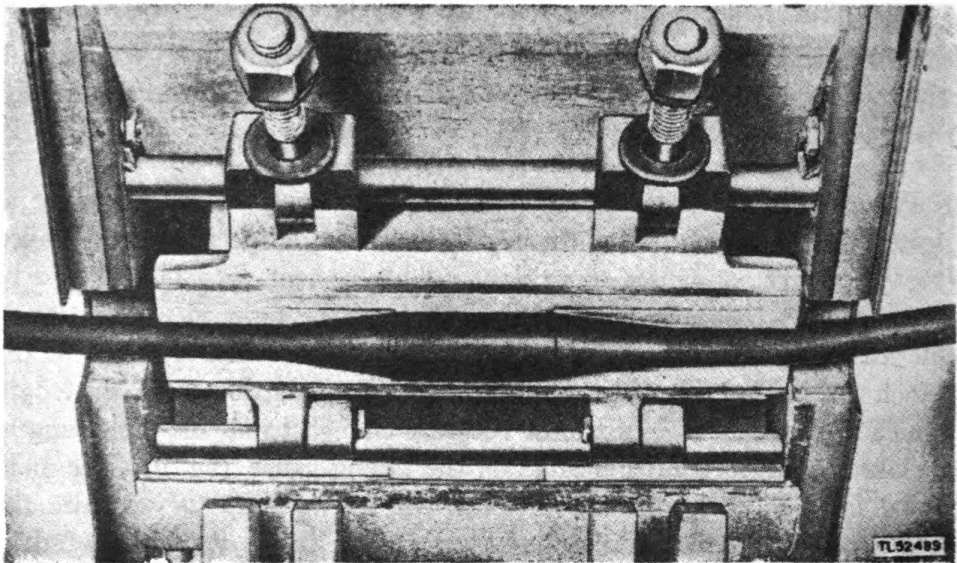

Figure 10. Completed splice in Vulcanizing Equipment TE-54-A or TE-55-A.
(9) If a patch on the rubber jacket is being made, scrape all surfaces clean, brush on the rubber cement, allow it to dry, and apply enough black vulcanizing tape to fill the upper mold. The use of the taping gauge will facilitate this procedure.
b. Vulcanizing. (1) The vulcanizer made available to a particular organization may be one of several types. The operation of vulcanizing is very much the same with all units, although they vary in appearance and in the location of the heating element (figs. 10 and 11).
(2) Before completing the preparation of the splice, place the proper molds in the vulcanizer and heat the vulcanizing equipment for 30 minutes. Just before placing the splice in the mold, apply the mold dressing, furnished with the vulcanizing equipment, sparingly to all surfaces of the mold. The use of the mold dressing aids in the removal of the vulcanized splice from the mold.